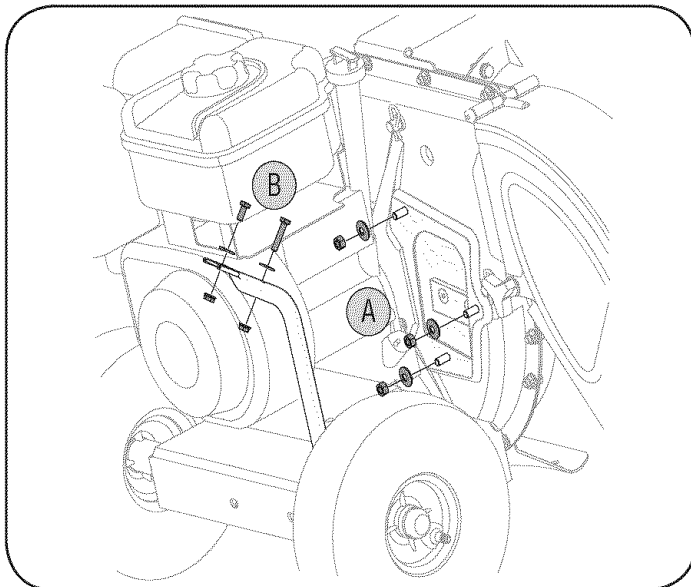

Figure 5
- Remove the three cupped washers and hex nuts from weld studs around the opening on the side of the impeller housing. See Figure 5.